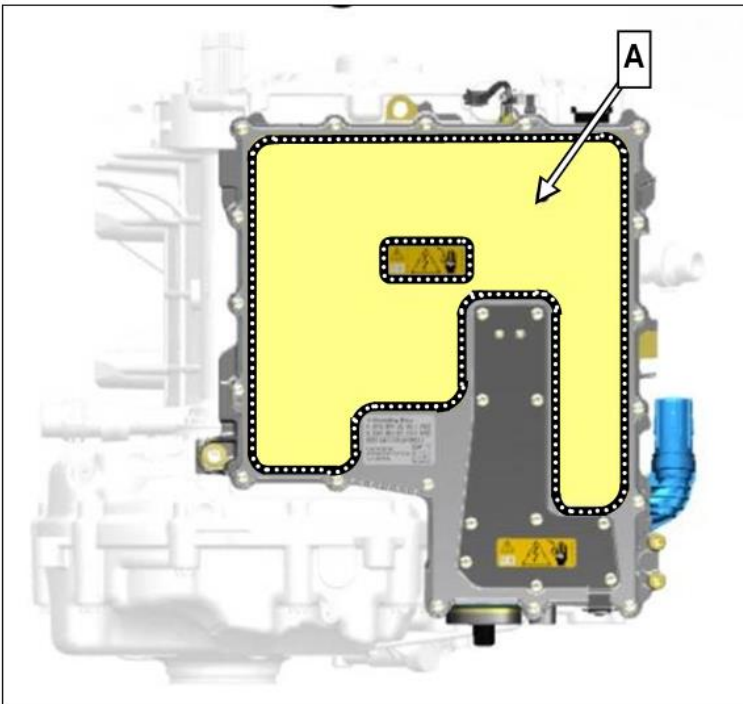

Figure 1
3. Retrofit damping (**A, Figure 1**) in area of power electronics control unit (N147/4) on front axle drive module.